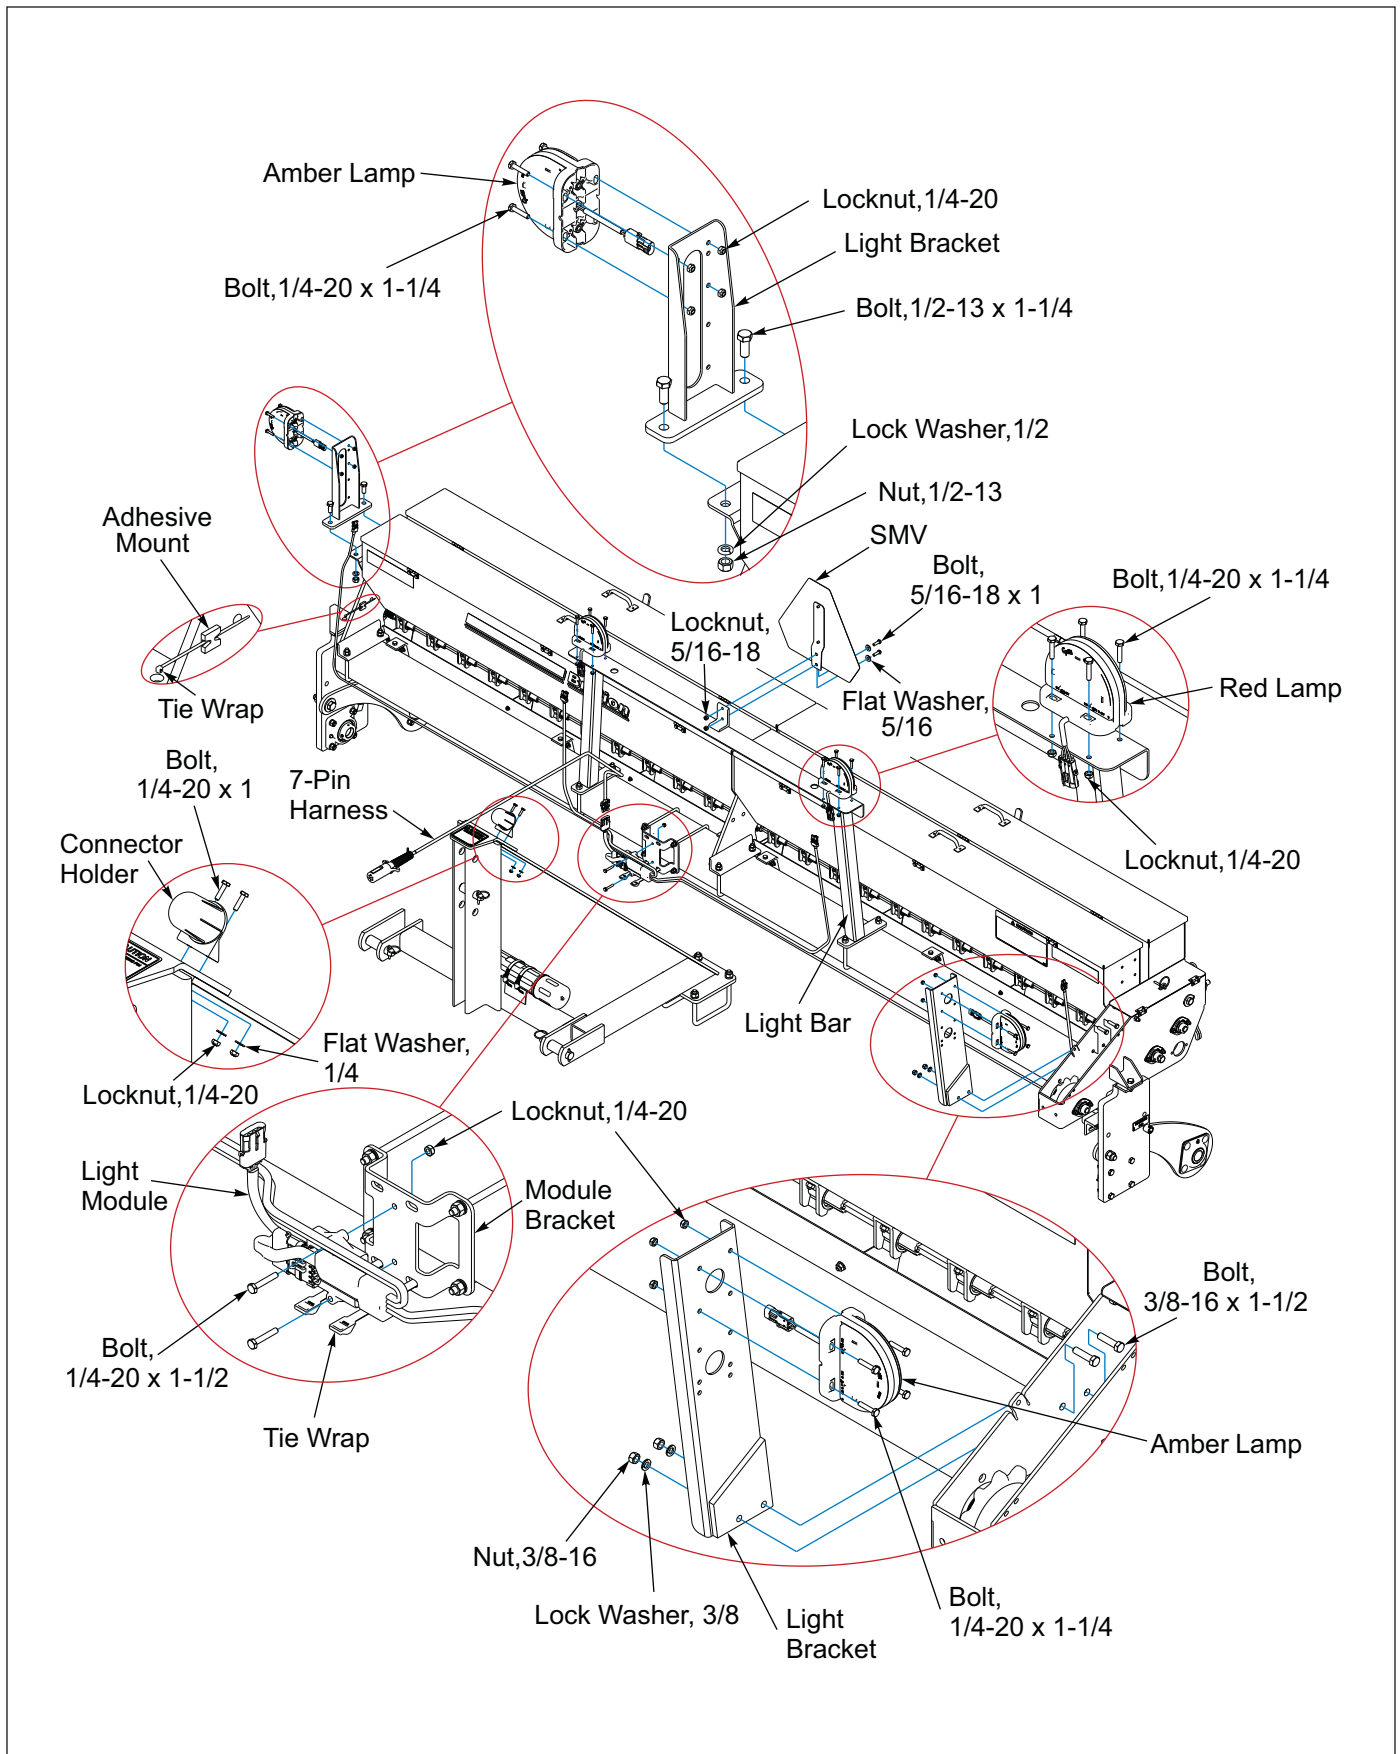

Figure 2-2: Warning Lamp Installation, 12FT, SSBP12
1. Attach both Red Lamps to the ends of the Light Bar with 1/4-20 x 1-1/4 Bolts and Locknuts. **See Figure 2-2.**